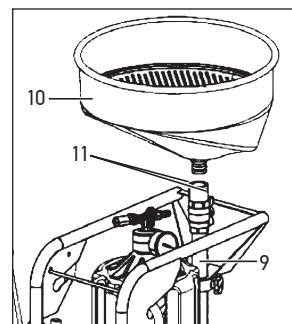
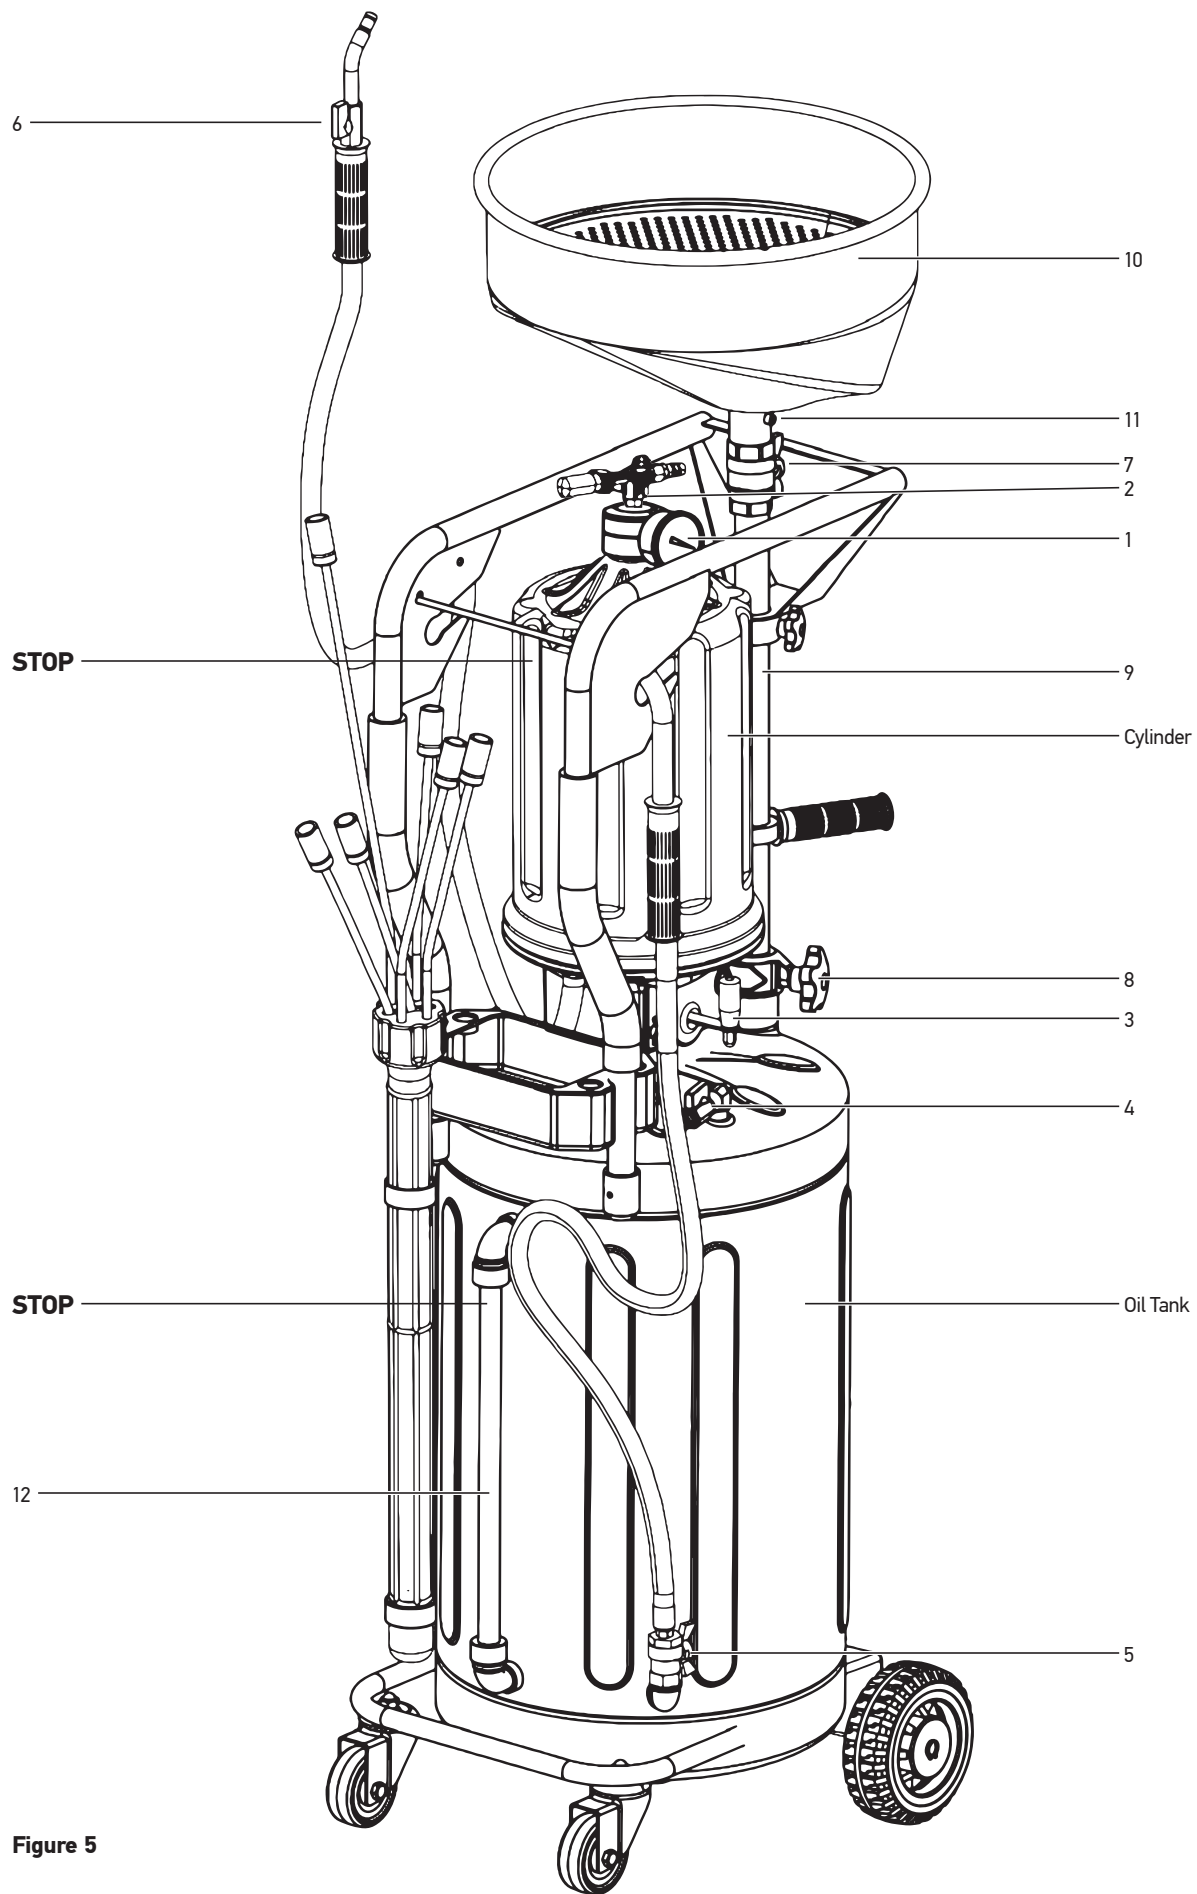

Figure 4
Figure 5
The oil drain bowl (Item #10 shown in Fig. 5) will need to be attached as follows (Fig. 4 and Fig. 5)
1. Loosen the riser drain tube knob #8, raise the oil drain tube #9, to a convenient height and retighten the knob #8 to secure riser tube in place (Fig. 5).
2. Place the drain bowl #10 into top of riser tube as shown in Fig. 4. **NOTE:** It may be necessary to loosen the two Allen screws #11 Fig. 4 to allow the drain bowl to fully seat.
(Refer to Fig. 5, Pg. 3)
2. Open oil suction valve #6 (Fig. 5) at end of suction hose. Oil is extracted from the engine oil sump into the Oil Extractor reservoir tank. To prevent unnecessarily neutralizing the vacuum charge, close valve #6 as soon as possible after air is heard, or observed, in the suction hose. Allow the engine oil to “pool” for 15 – 20 seconds and again open #6 briefly to extract all free oil from engine sump.
- Do not fill tank above the “STOP” indicator on sight gauge, Fig. 5, Pg. 3.
- Before moving/transporting tank filled with oil, make sure tank isolation valve #3, Fig. 5 is closed (horizontal position). Otherwise oil can easily splash into the venturi which will adversely affect ability to create a vacuum.
1. Referencing Fig. 5, make sure suction valve #6, discharge valve #5, tank pressurization valve #4 and tank isolation valve #3 (horizontal position) are closed.